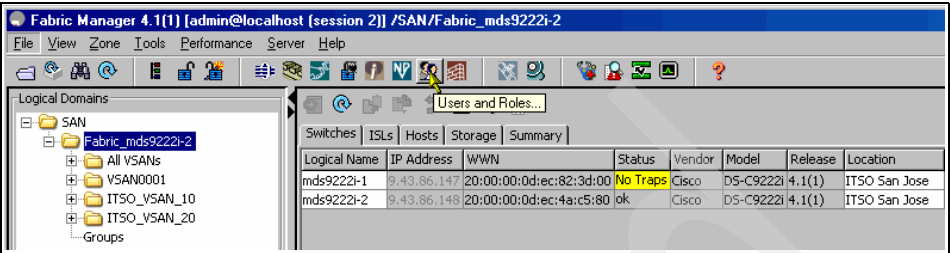

Figure 6-28 Selecting users and roles
1. Click the users and roles icon, as shown in Figure 6-28.
1. Click the users and roles icon, as shown earlier in Figure 6-28 on page 197.